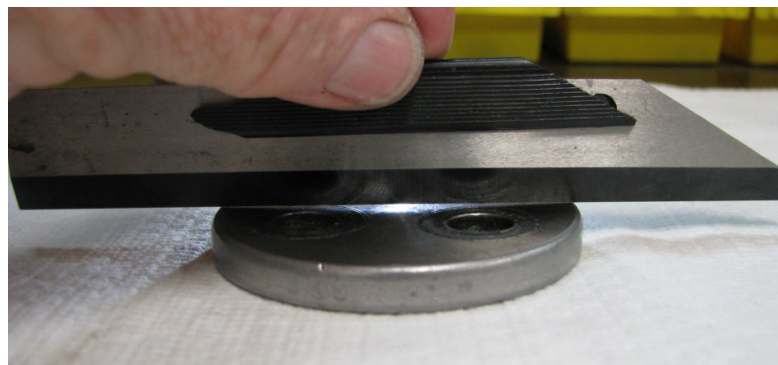

Figure 3: End plate.
6. Inspect endplate (PN 6403697), ensure it is not warped, replace if damaged. See Figure 3.